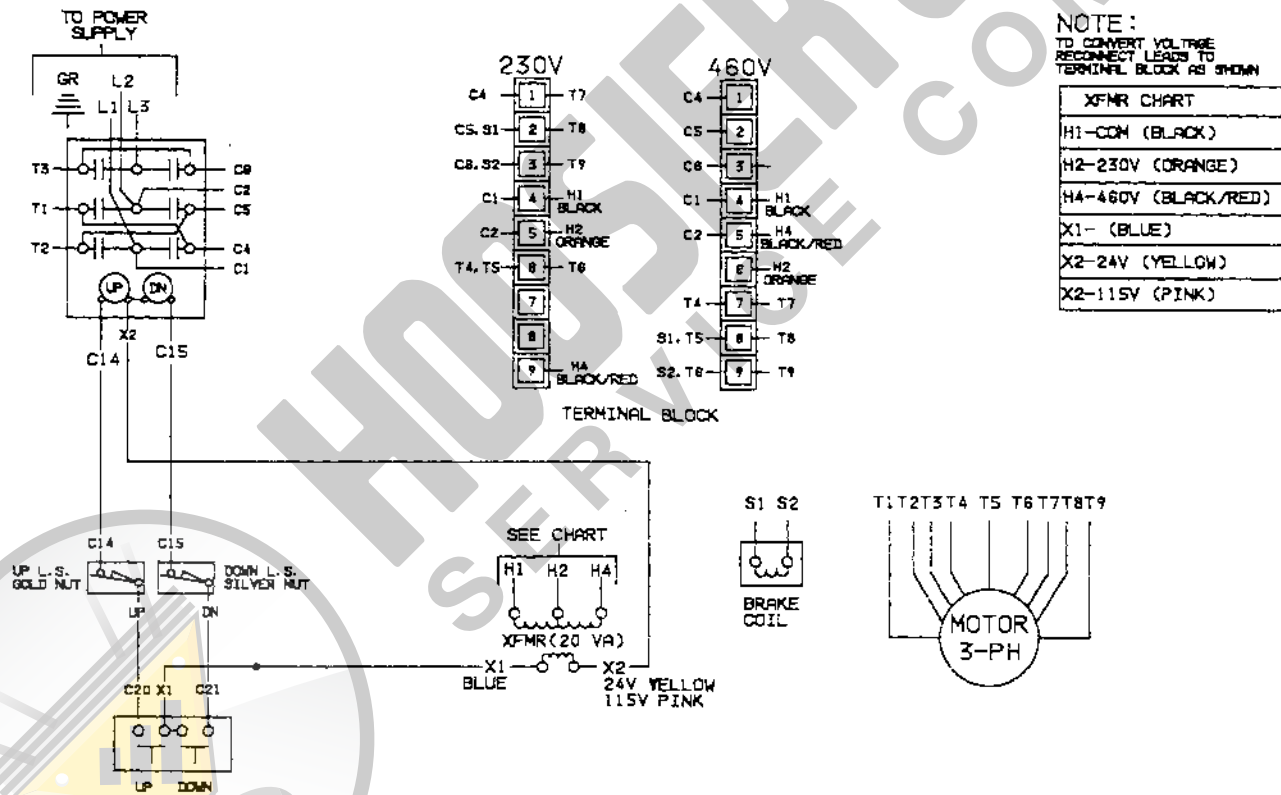

FIGURE 7-1. WIRING DIAGRAM
- To convert the hoist from 460 to 230 volts, reconnect leads T4, T5, T6, T7, T8, T9, H2, H3, S1, and S2 per the 230 volt connection diagram on Wiring Diagram, Figure 7-1.